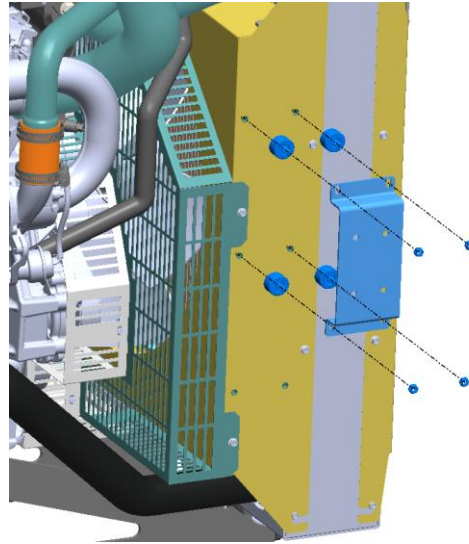

Figure 12
16. Install the bracket (23) onto the intake side of the radiator as shown in the figure 12 using Isolators (24) and hex nut (25).